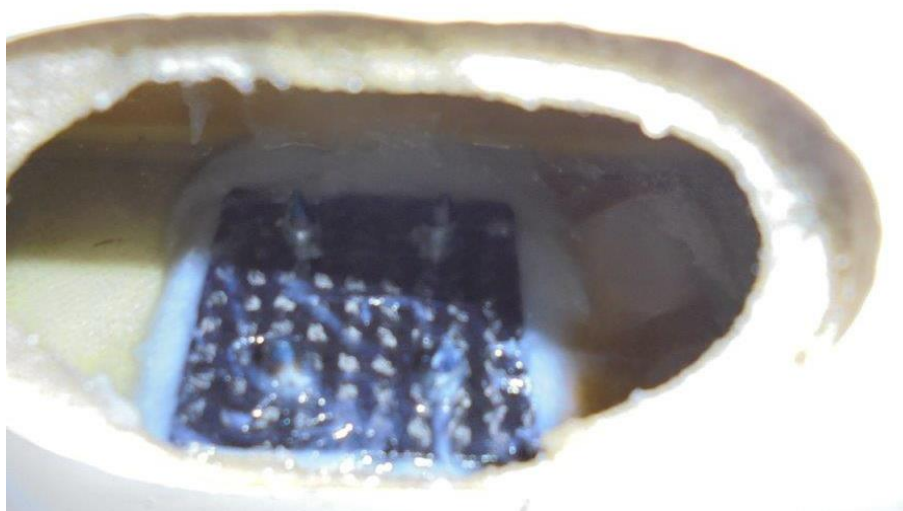

Figure 8: Repair plate bonded on top of the insert with thickened resin
7.1.16 Bond the repair plate with the non-chamfered side through the tapered bolts on top of the insert, refer to Figure 8. Smoothen out the excessive resin at the edges of the repair plate to gain a transition/chamfer to the spar and shell.